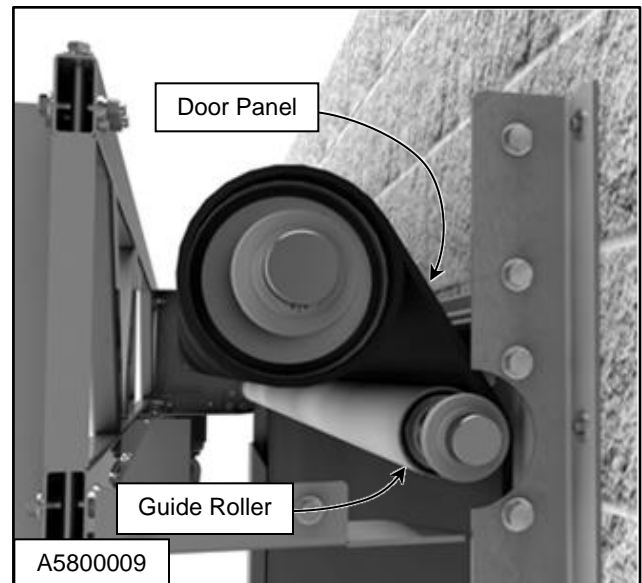

Figure 20
14. Check and adjust the routing of the bottom bar and door panel over the idler roller. (See Figure 20)